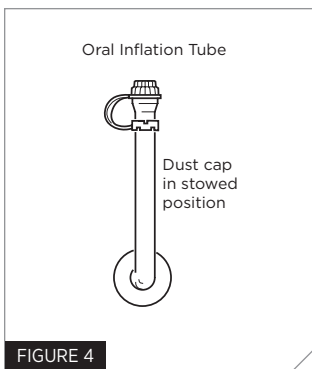

FIGURE 4
3. Is the cap for the oral tube in place? Undo the Velcro™ tab on (wearer's) left side at bottom, to expose the zipper. Undo the zipper by placing a finger underneath the zipper and running it up (toward wearer's face). Unfold the material to expose the oral tube. Make sure the cap is in place, covering the oral tube (Fig. 4). Close the side up again by first re-folding the material; then close the zipper by zipping down to the zipper stop and then back up again.